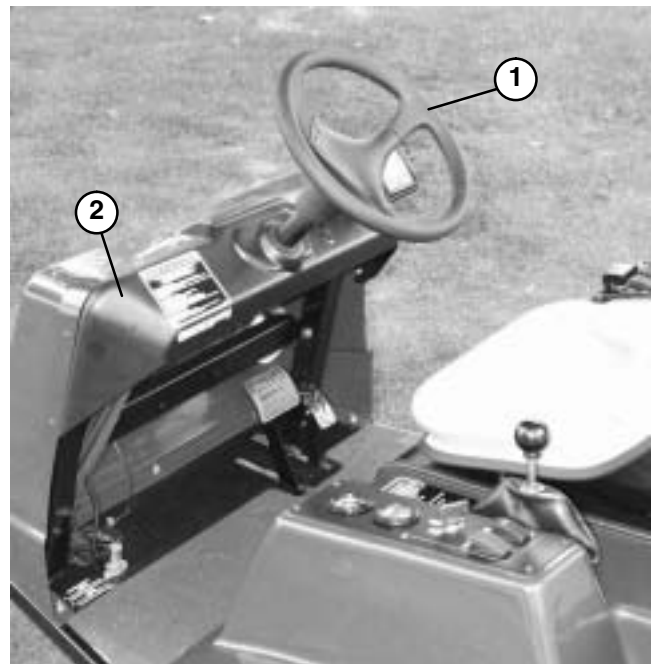

Figure 20
3. Remove fasteners that secure dash panel to front hood (Fig. 20). Top of panel is secured with five (5) screws. Sides of panel are fastened with four (4) screws, flat washers, and lock nuts. Carefully slide dash panel up steering column to allow access to steering control valve.
6. Loosen and remove four (4) cap screws that secure steering column and steering control valve to machine frame.
4. Position dash panel to front hood and secure with fasteners (Fig. 20).